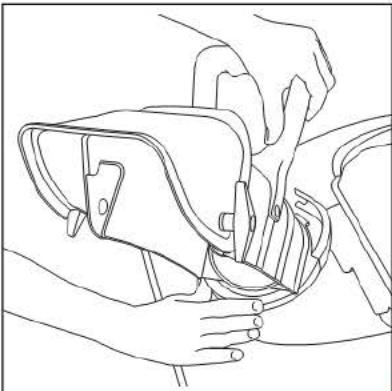

Figure 6
4. Using the locking collar, secure the discharge chute to the base. See figures 6 and 7.